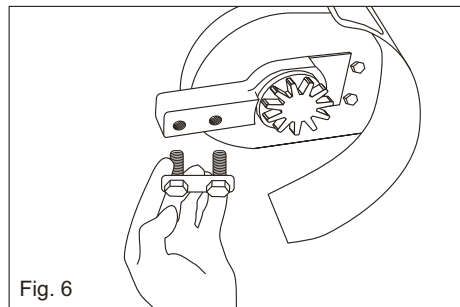

Fig. 6
10. Roll power head onto its right side (on a surface that will not scratch chain cover instructions, etc) so that you have a clear view of digging bar securing bolts. Using the spanner provided undo and set aside the two large securing bolts and large flat washer that (will) attach the digging bar to the main block of the Terrasaw (Fig. 6).